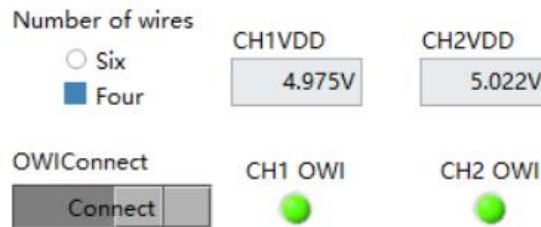

Figure 5.2.8 OWI connection
- Click the "Four" option under "Number of wires" and select the chip connection form (described in the programmer hardware connection diagram in Chapter 3). Click the "Connect" button to establish a communication connection between the programmer and the chip. When connected normally, the programmer connection indicator light will turn green (Figure 5.2.8).